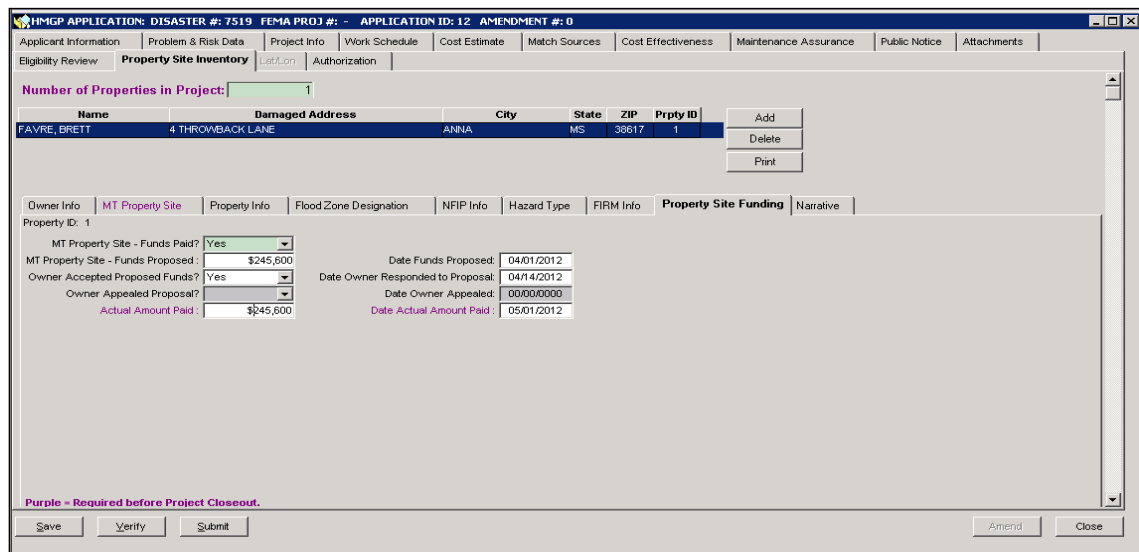

Figure 6-103: Mitigation > Projects > Application Development > Property Site Inventory > Property Site Funding Sub-tab
- 19. Click the **Property Site Funding** sub-tab (Figure 6-103). Enter the information listed in Table 6-15.